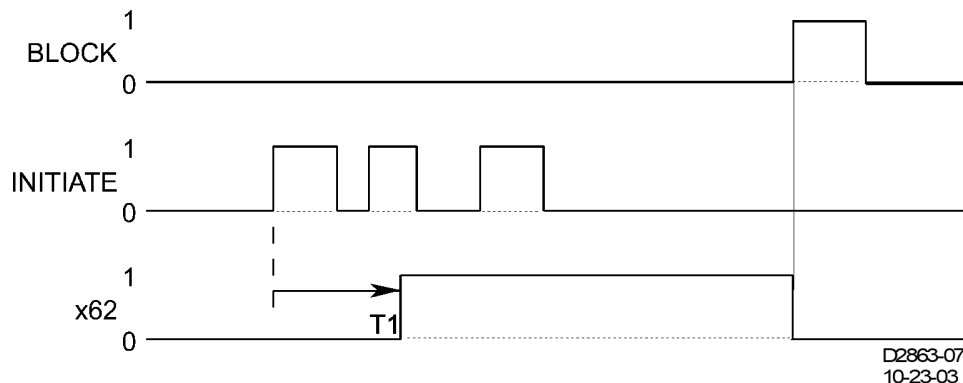

Figure 13-5. x62 Mode 6 (Latch) Timing Example
Step 3: Use the RS-LGC command to obtain an SER report and verify that the following actions were logged. These events are illustrated in the timing diagram of Figure 13-5.